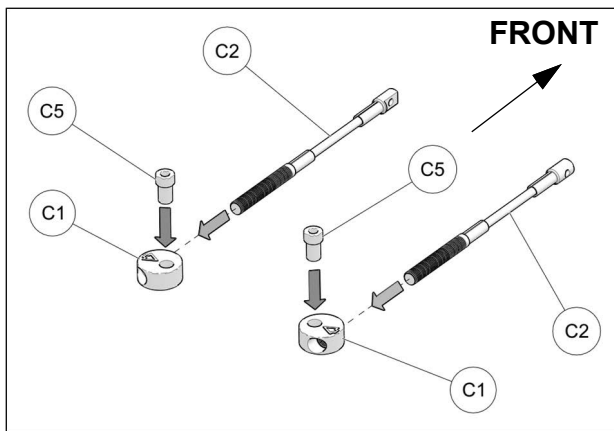

Fig. 21
12. Assemble steering limiter cables (**C2**), aluminum disks (**C1**) and step spacers (**C5**) together as shown on Fig. 21